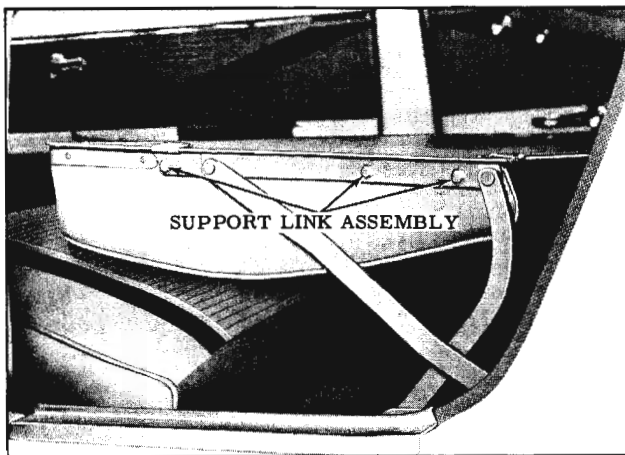

Fig. 16-322 Support Link Assembly
- At each side of seat, remove screws securing mounting support link assembly to folding seat back assembly. (Fig. 16-322)
4. Remove mounting support to folding seat back attaching screws as shown in Fig. 16-322, and remove mounting support link assembly from body.